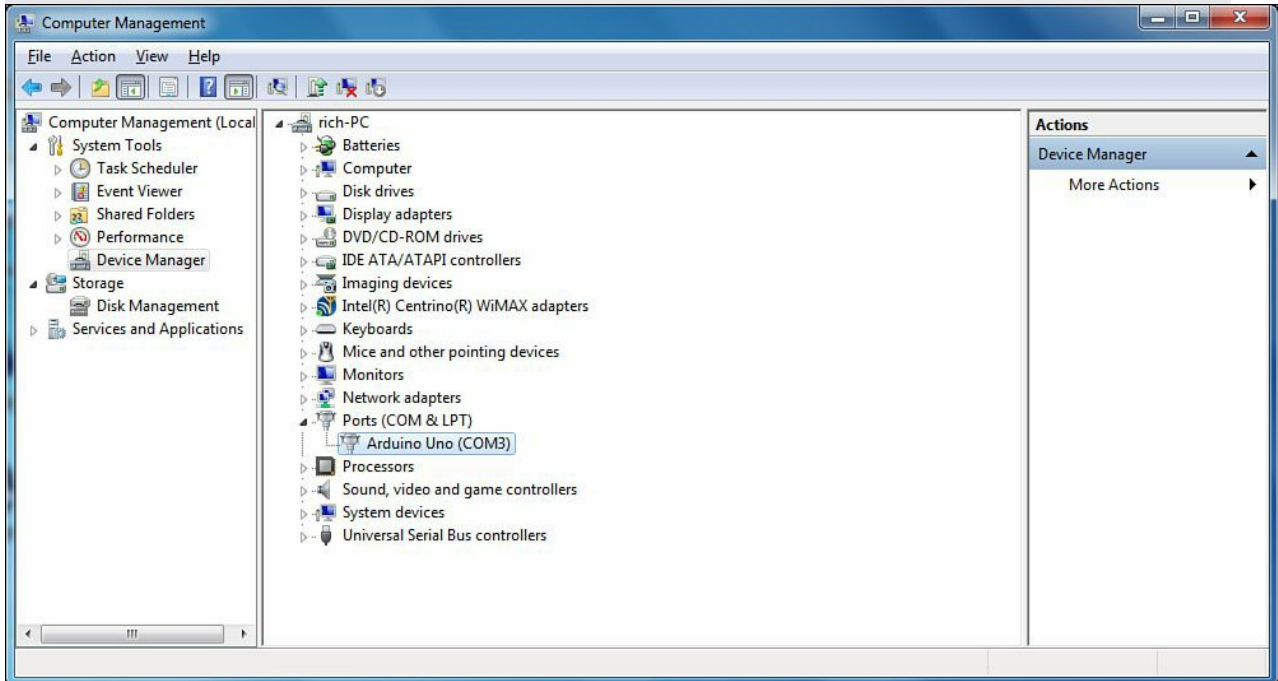

FIGURE 2.5 The installed Arduino USB driver COM port.
9. The Device Manager should now show the Arduino unit listed as a COM port on your workstation, as shown in Figure 2.5.
It's a good idea to note the COM port assigned to the Arduino unit (shown as COM3 in the Figure 2.5 example). You'll need that information later on when you configure the Arduino IDE software.